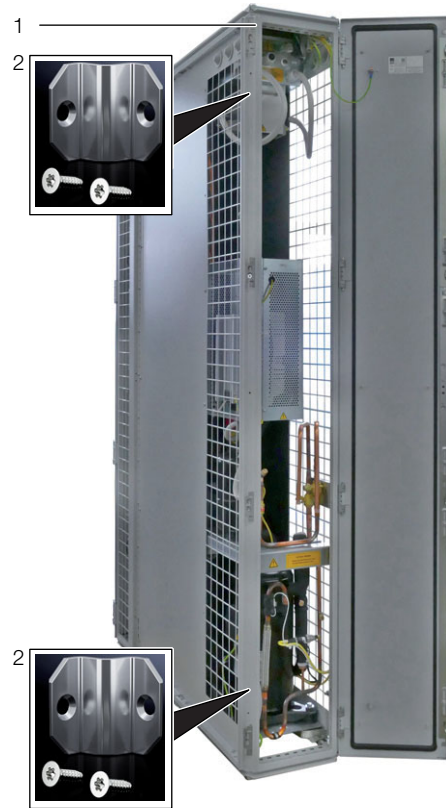

Fig. 15: Rear
- Using the corresponding assembly screws, fasten two baying connectors each (fig. 15, item 2) onto the attachment points provided in the mounting strips on the front and rear of the LCP DX (fig.15, item 1).